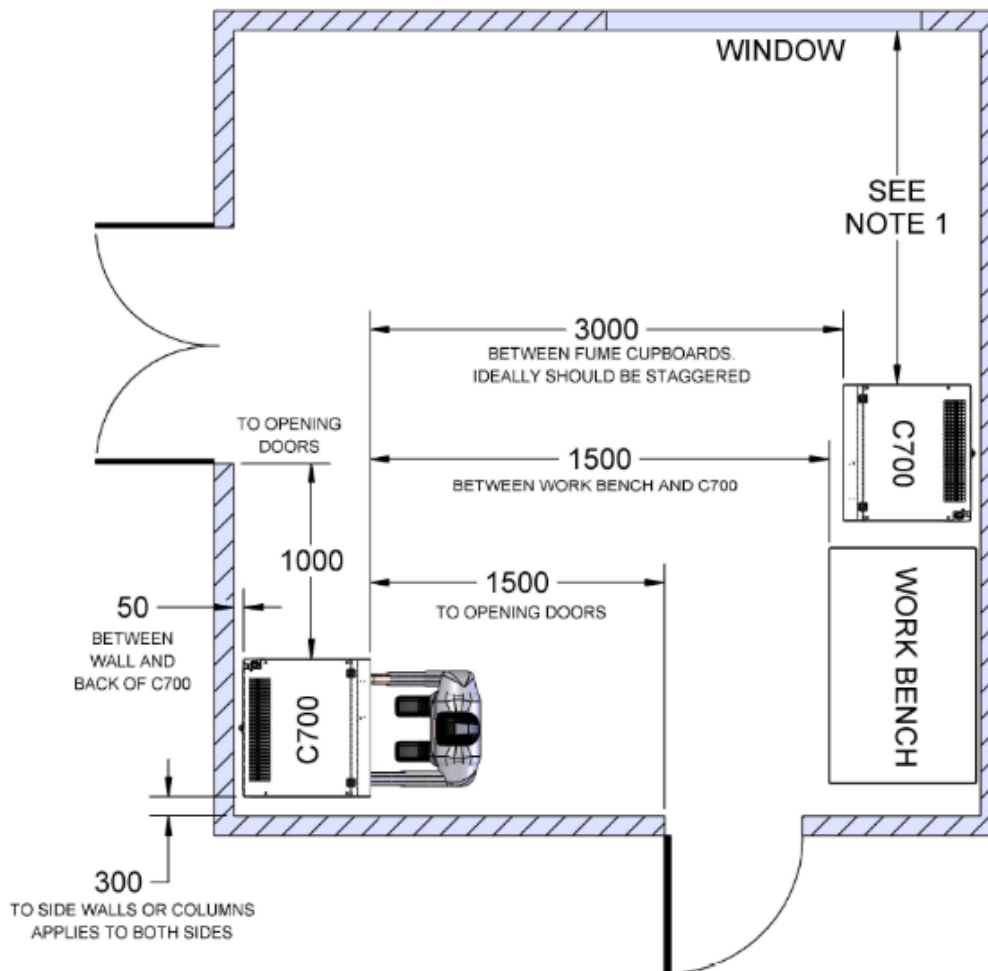

Figure 2
For best performance, the unit should be positioned away from human traffic, opening doorways, ventilation and air-conditioning systems and opening windows. See Fig 2
- The unit should be sited in a draught free position, see Fig 2.